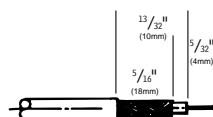

Figure 2
- Refer to diagrams in Figures 2, 3, and 4 while performing the following steps.